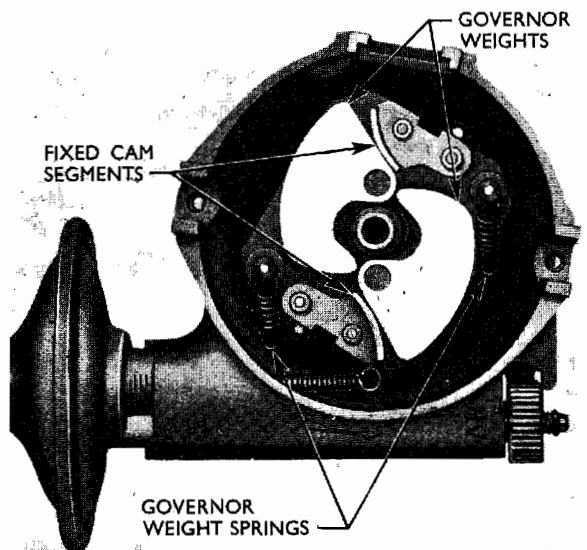

Fig. 7
5. Locate the governor weights on the action plate with the flat sides abutting the fixed cam segments and the cut-away portions nearest the shaft (see Fig. 7).